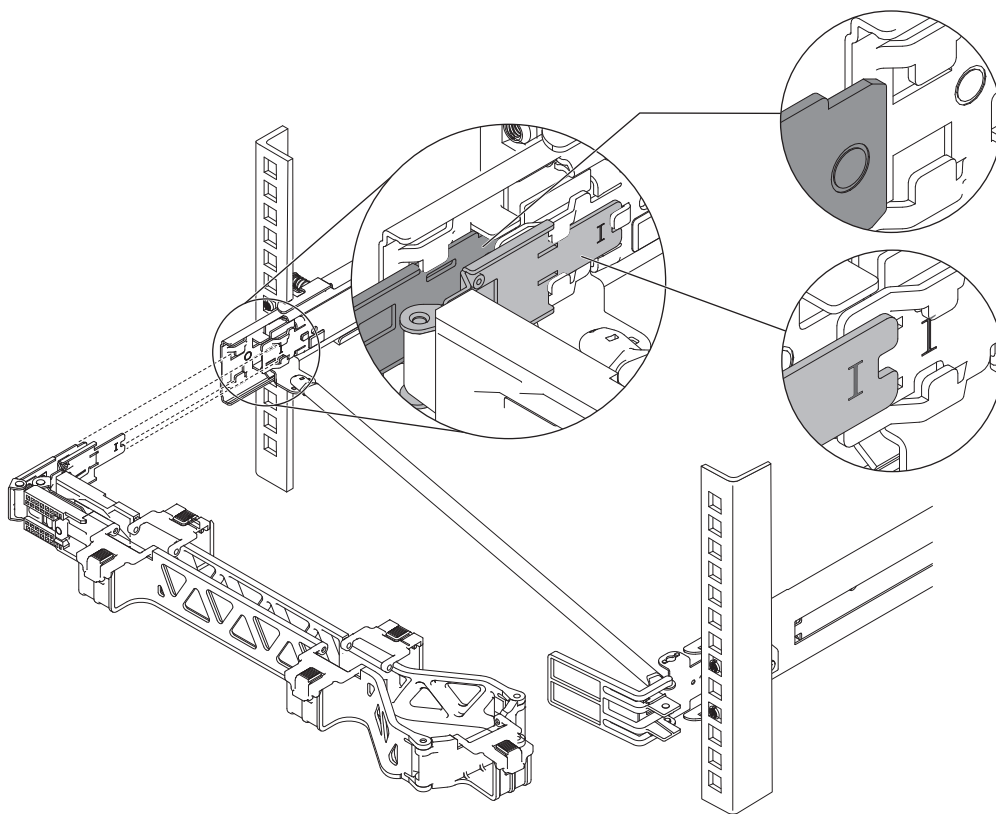

Figure 13. Removing the cable-management arm stop bracket
6. Remove the cable-management arm stop bracket, as shown by Figure 13 on page 28.